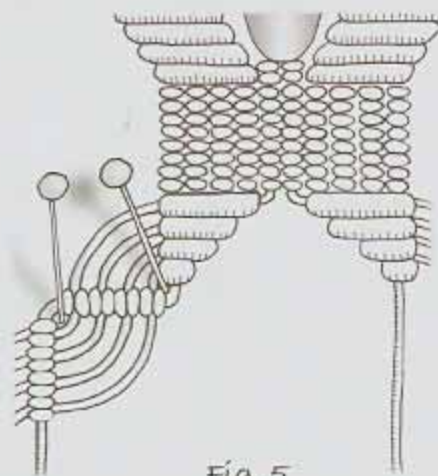

Fig. 5
24. Make sure the knotting is well-pinned to the board. Place a pin directly to the left of Cd #5 where it exits the **DHH** and bring it out horizontally to the left. It will serve as your **AC** for the rest of the Stair Step pattern (see Figure 5).
Note - The cords should form graceful semicircles between "stairsteps". Don't pull them too tightly. You may want to use pins to keep the cords in the right positions as you knot the next row (see Figure 5).